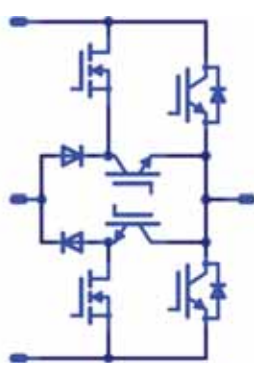

Figure 12: Advanced paralleled NPC circuit
- Parallel switch. This is paralleling of a fast component (e.g. a MOSFET) with a low voltage drop component (e.g. an IGBT). The loss reduction is achieved by rendering the static losses of the switch to the IGBT and the dynamic losses to the MOSFET. Even better is to use a so-called mixed-voltage NPC topology and parallel it with just 600V MOSFETs and 1200V IGBTs (see Figure 12).